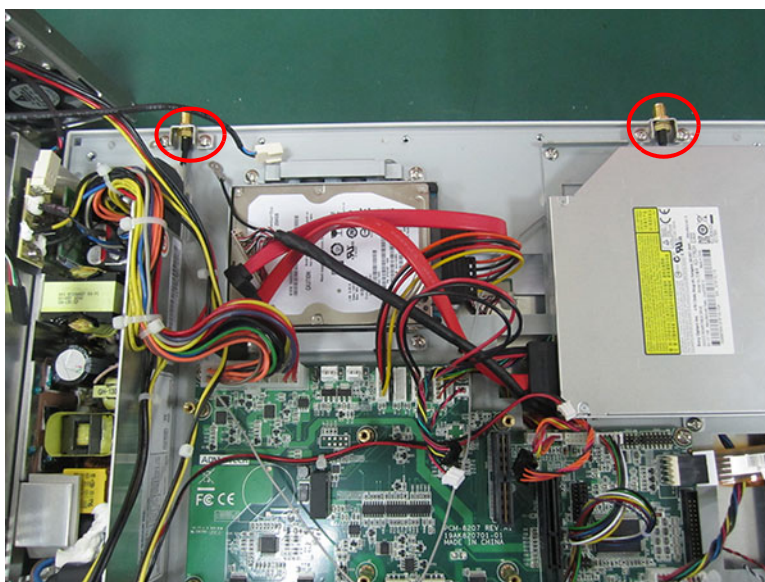

Figure 2.29
3. Lock the bracket with antenna onto M/B frame, the wiring method is shown as Fig 2.29.